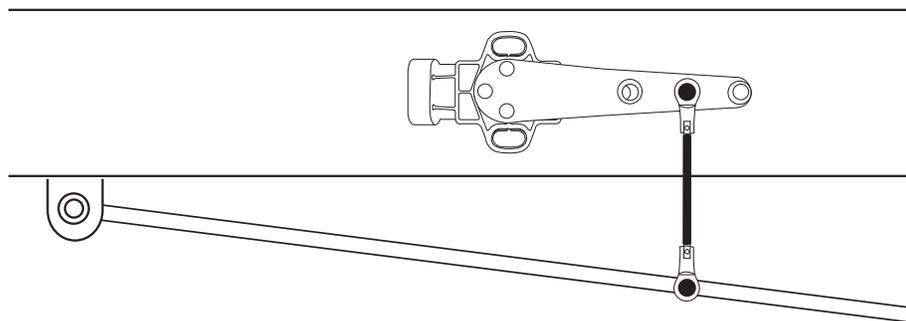

fig. 16
- Assemble linkage back together, and fasten it to the sensor arm and lower mounting location with supplied hardware (fig. 16). Temporarily secure the sensor in its intended location including using the height sensor spacer that is provided.